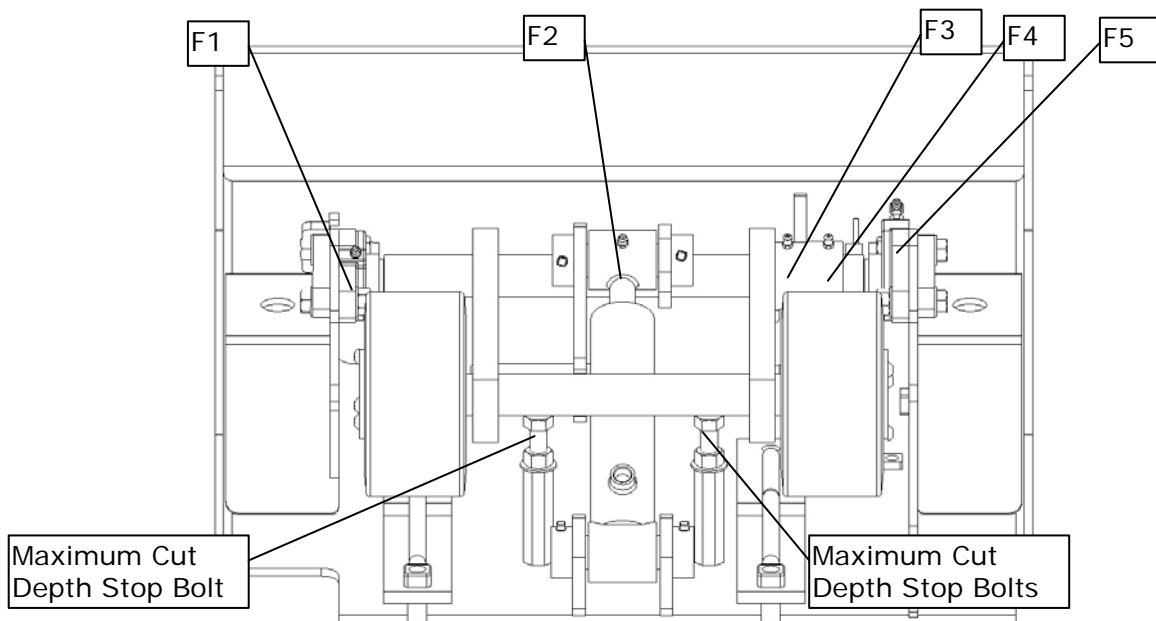

Fig. 38 — Grease Fittings and Maximum Cut Depth Stops
2. Fully lower the saw onto the Stop Bolts (see Fig. 38).
This saw has six grease fittings. Locations are shown in Figure 38 on the front axle assembly, and one, (not shown) on the Jackshaft assembly.